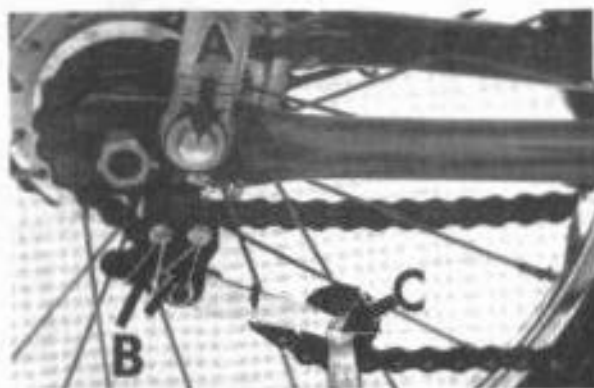

Fig. 41-1
- 5) Remove the lower shock absorber bolts "A" Fig. 41-1 (both sides)
- 6) Remove the 2 chain tensioner retaining bolts "B" Fig. 41-1 and the chain tensioner pulley bolt and pulley wheel "C" Fig. 41-1 and the chain tensioner is now free to be removed from the pedalling chain.